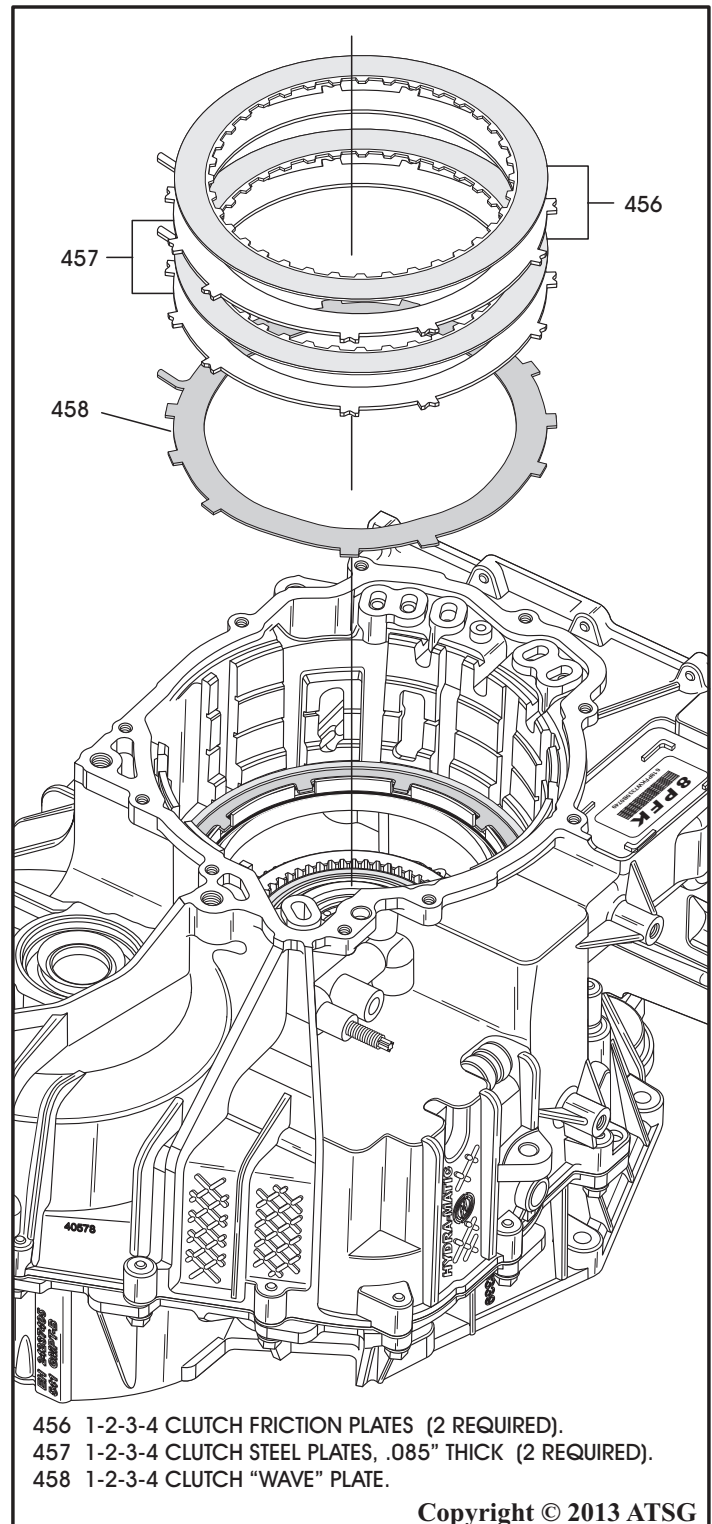

Figure 66
46. Remove the 1-2-3-4 clutch pack, 2 frictions and 2 steel plates, as shown in Figure 66.
47. Remove the 1-2-3-4 clutch "wave" cushion plate as shown in Figure 66
**Note:** Note the location of the long tabs on the wave, steel and backing plates towards the bottom of the case (See Figure 66).